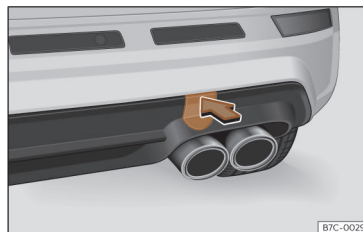

Fig. 185 Rear bumper on right: remove the lid.
The housing of the screw towing eye is on the right side of the rear bumper behind a lid >>> **Fig. 185**.
- Press the upper side of the lid >>> **Fig. 185** to unclip it.